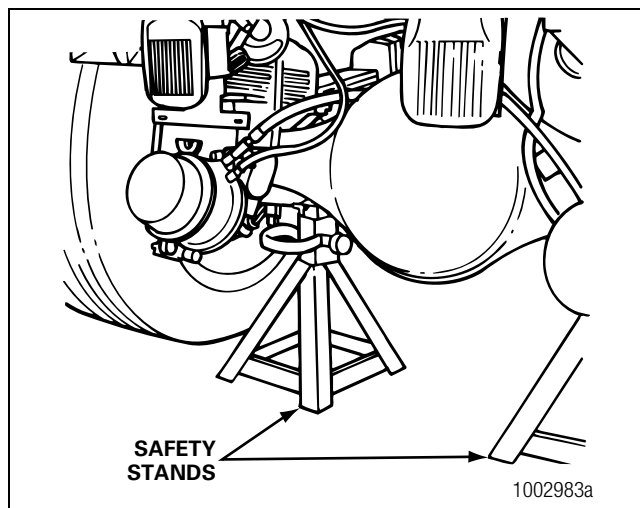

Figure 3.1
3. Place jackstands under each spring seat of the axle to hold the vehicle in the raised position. Figure 3.1.